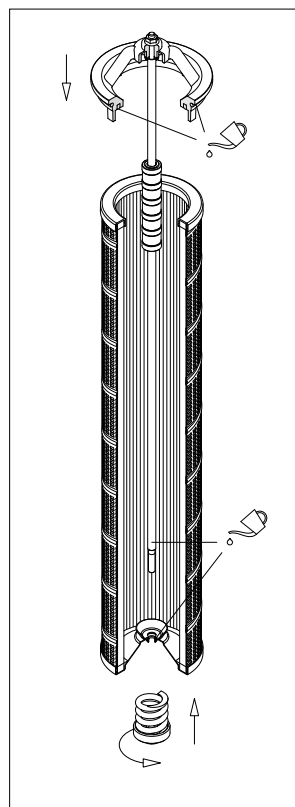

fig. 9
- (Fig. 9) Lubricate with the operating fluid the filter element O-ring, the tie rod, and the insert seals, then fit the tie rod into the filter element end cap until the moulded gasket leans against the top cap. Pay attention not to damage the O-ring seal. Then screw the bypass in referring to the tightening torque table in paragraph 3